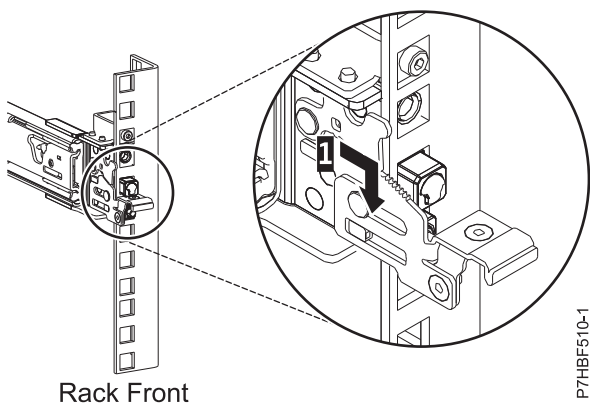

Figure 5. Pins that are seated on the front rail of the rack
6. Pull the slide rail forward and insert three pins on the front of the rail into the holes within the selected EIA unit that were previously marked. Lower the slide rail down (1) to engage the hook feature on the middle pin. For details, see Figure 5.